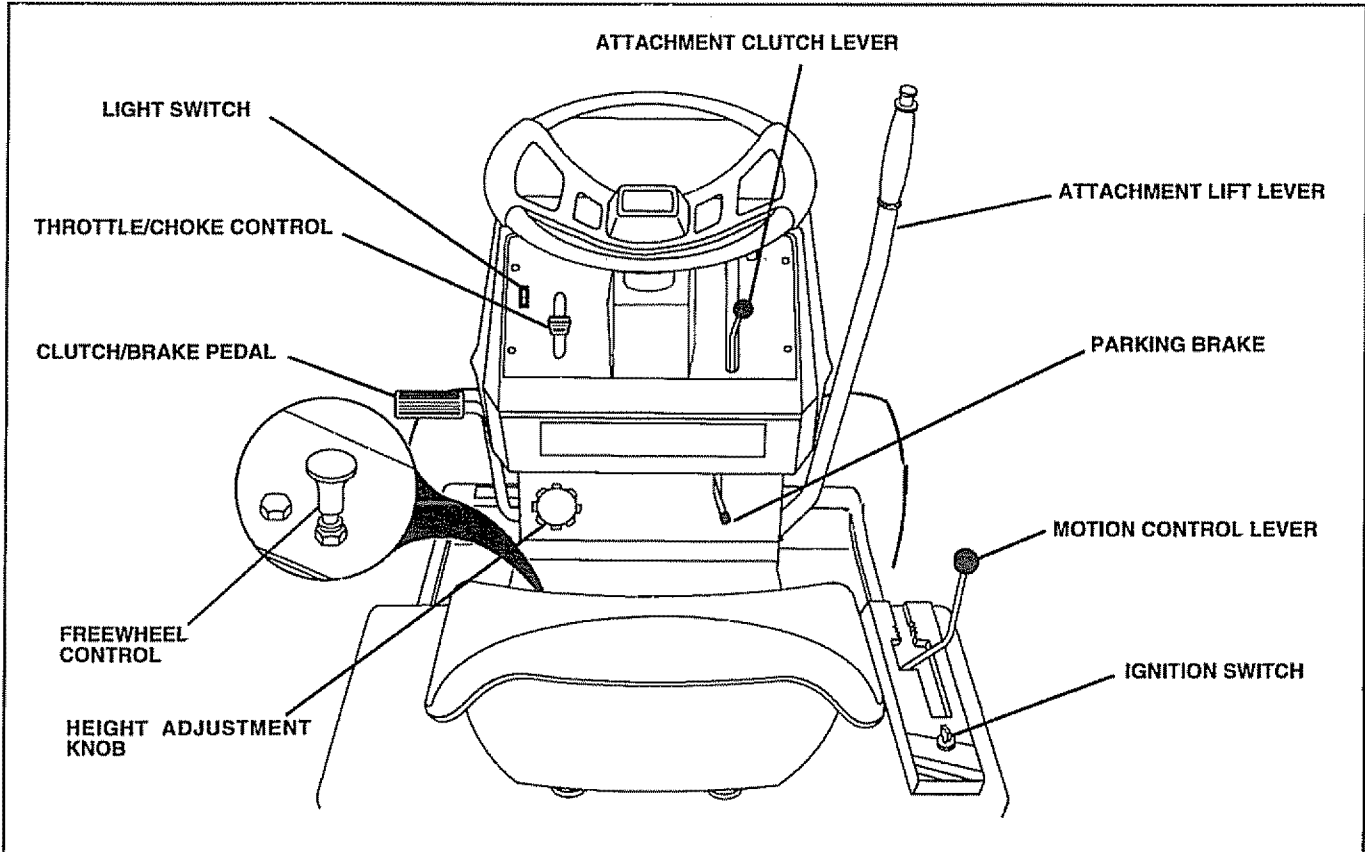

FIG. 8
- Slide seat until a comfortable position is reached which allows you to press clutch/brake pedal all the way down (See Fig. 8).